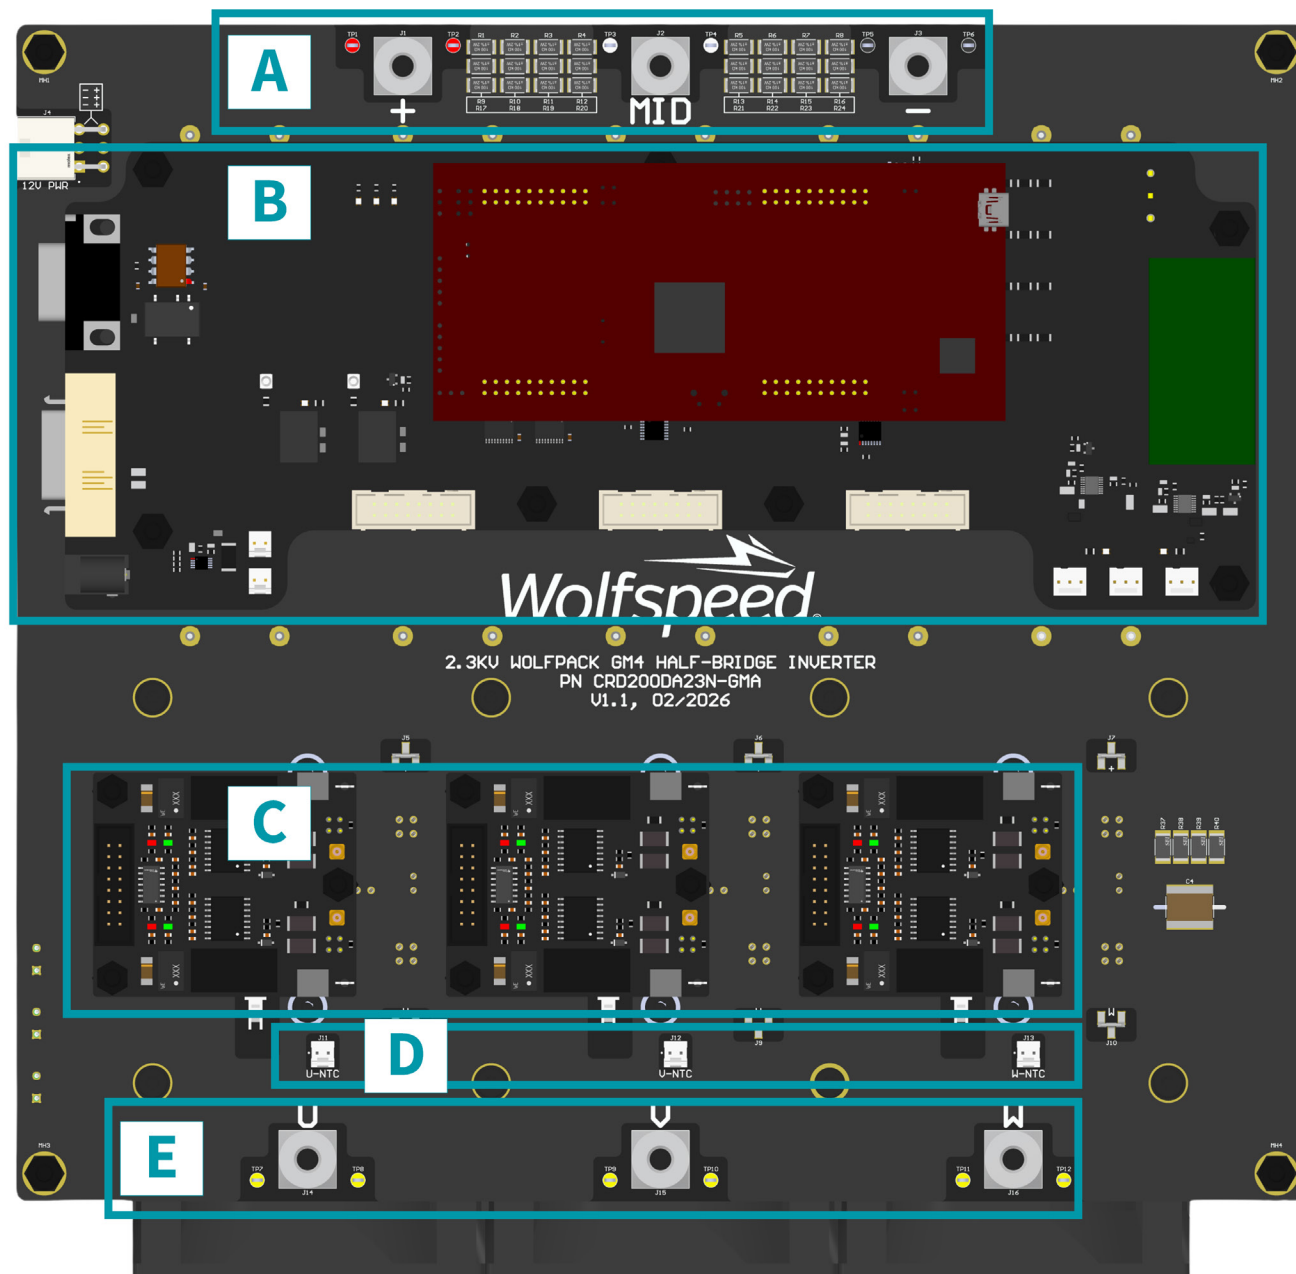
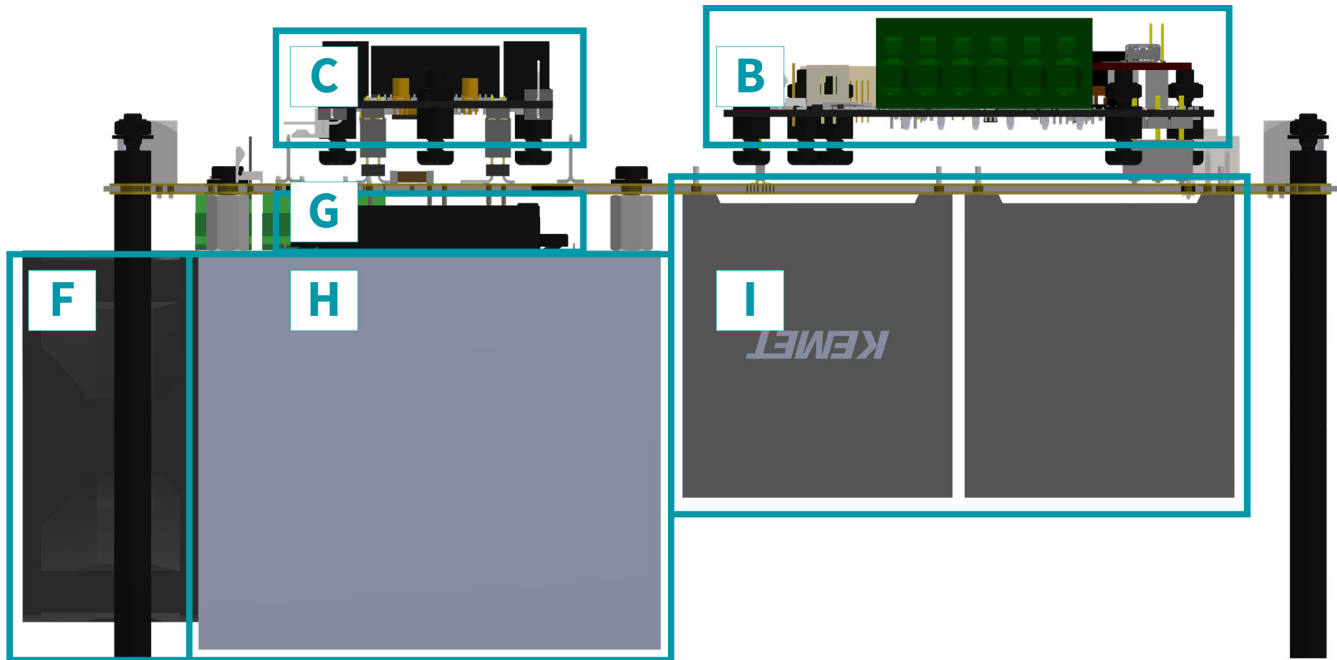

Figure 4: CRD200DA23N-GMA top view
Figure 6: CRD200DA23N-GMA side view
The various subsystem functional groups of this reference design are shown from the top and side profile views in Figure 4 and Figure 6, respectively. A brief description of each of the labeled subsystems is provided in Table 2 with further details about each of the subsystems described in Section 2.3.
This design leverages the controller printed circuit board (PCB) from the CRD300DA12E-XM3 three-phase inverter reference design. This enables customers who have experience with that design to easily adapt any custom firmware to this design. The control board, shown in Figure 4, uses the Texas Instruments (TI) LAUNCHXL-F28379D LaunchPad™ development kit for gate driver control and feedback monitoring. The design files for this control board are available for download on the CRD300DA12E-XM3 landing page. A summary of the various elements on the control board are provided in Table 3, and more information about the controller and modifying the firmware is presented in Section 4. Several of the input/output connectors discussed throughout Section 2 are located on this control board.
The control board includes an auxiliary connector for connecting spare/extra peripherals. This connector includes pin attachments for a fourth current sensor, a second CAN interface (**CANB** which is not isolated), and encoder ports. The connector is 10226-55G3PC manufactured by 3M® and is a standard Mini D ribbon connector. The connector pinout and descriptions are shown in Figure 4 and Table 6, respectively.